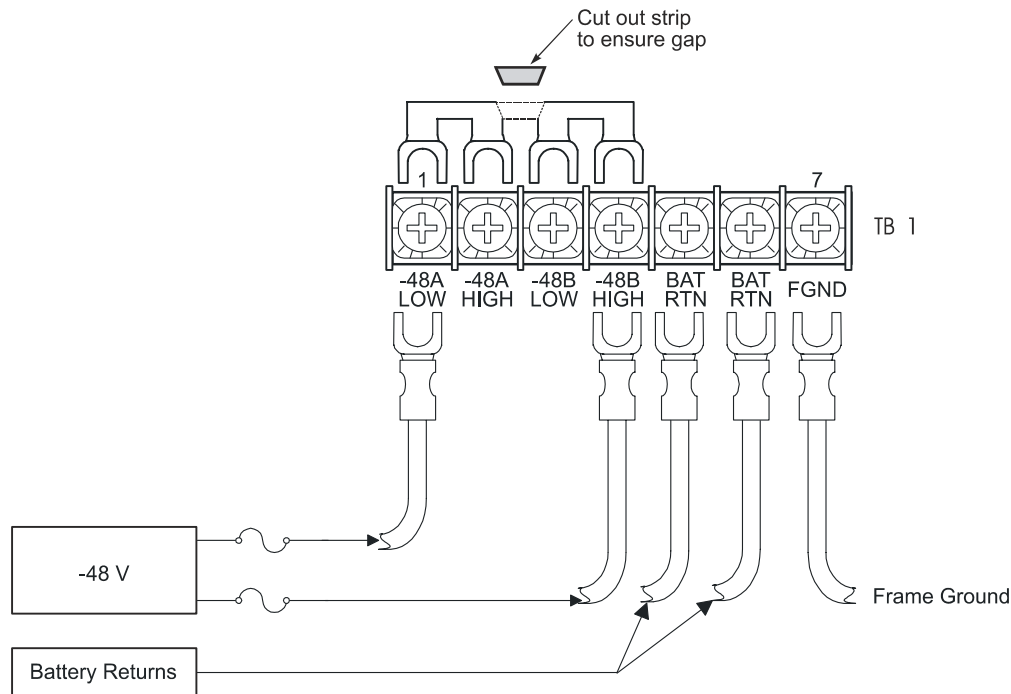

Figure 20. Redundant Shelf Power Wiring
A four-position jumper is in place on the TB1 block (Figure 20). This jumper shorts all of the 48 VDC inputs together to prevent an alarm condition when only one input feed wire is connected. To provide redundant shelf powering:
2. Remove the four-position jumper (Figure 20 on page 27) and discard.